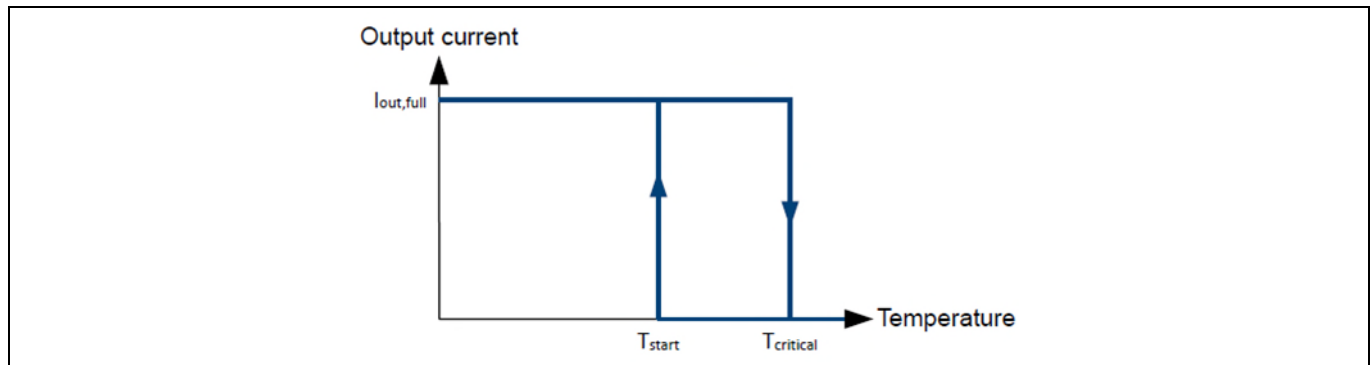

Figure 27 Internal over-temperature protection
- Internal over-temperature protection: it initiates shut-down once the critical temperature level $T_{critical}$ is exceeded. As shown in **Figure 27**, once the internal temperature sensor exceeds $T_{critical}$, the XDPL8221 will trigger internal over-temperature protection. If the controller is configured to react with auto-restart, it will only restart after the temperature drops below T_{start} .